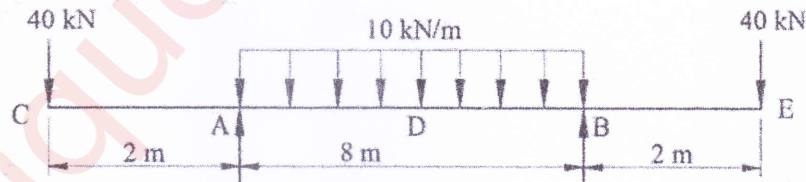

Figure 2
- b) An overhanging beam, CADBE, with supports at point A and B is loaded as shown in figure 2. Compute slope at A and deflection at the midpoint D. Take $EI = \text{Constant}$. 10M